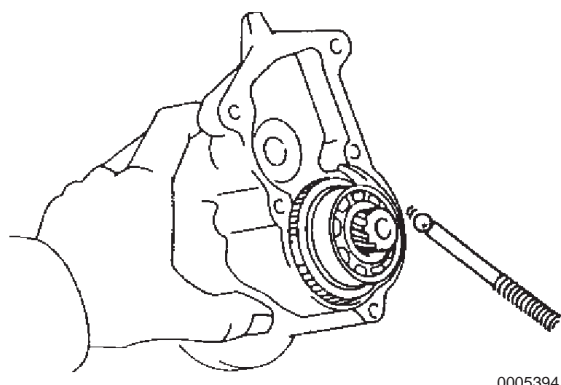

Figure 10-7
5. Remove the steel ball through the clutch shaft hole using a magnet (**Figure 10-7**).